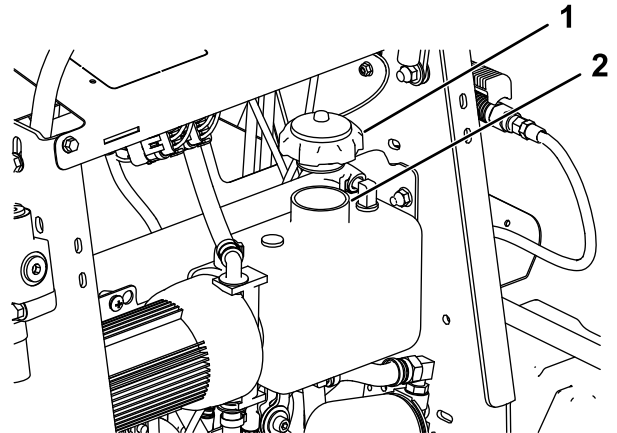

Figure 51
2. Remove the hydraulic-tank cap (Figure 51).